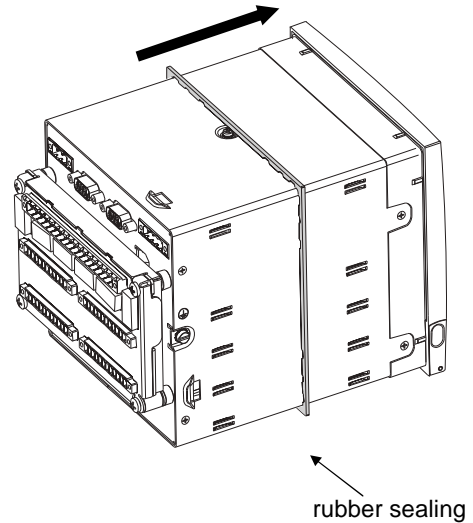

figure 3-1
2. Insert the rubber sealing from the rear of the instrument. (figure 3-1)